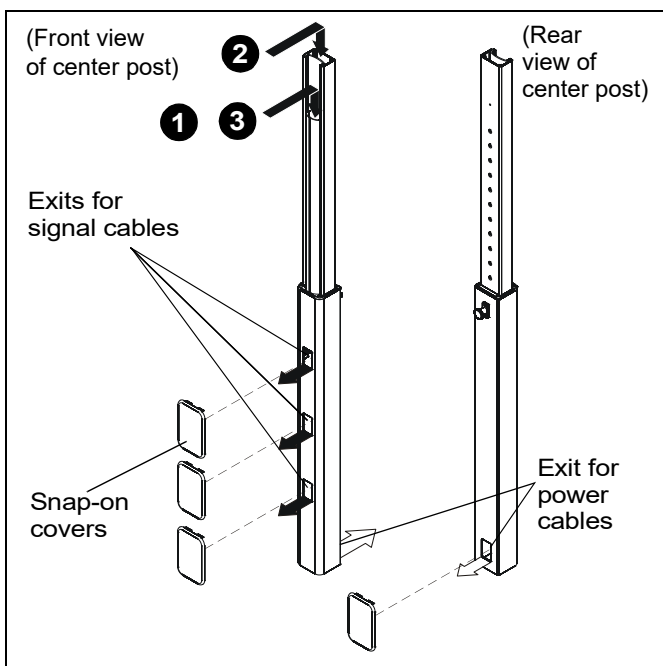

Figure 12
1. Signal cables can be run down the front flap of the center post and out the front of the post at any of the openings. (See Figure 12)
2. The display power cord can be run through the top and down through the post to exit out the back. (See Figure 12)
3. Any accessory power cords can be run through the front and down through the post to exit out the back. (See Figure 12)
4. Install the snap-on covers to any opening that is not being used. (See Figure 12)